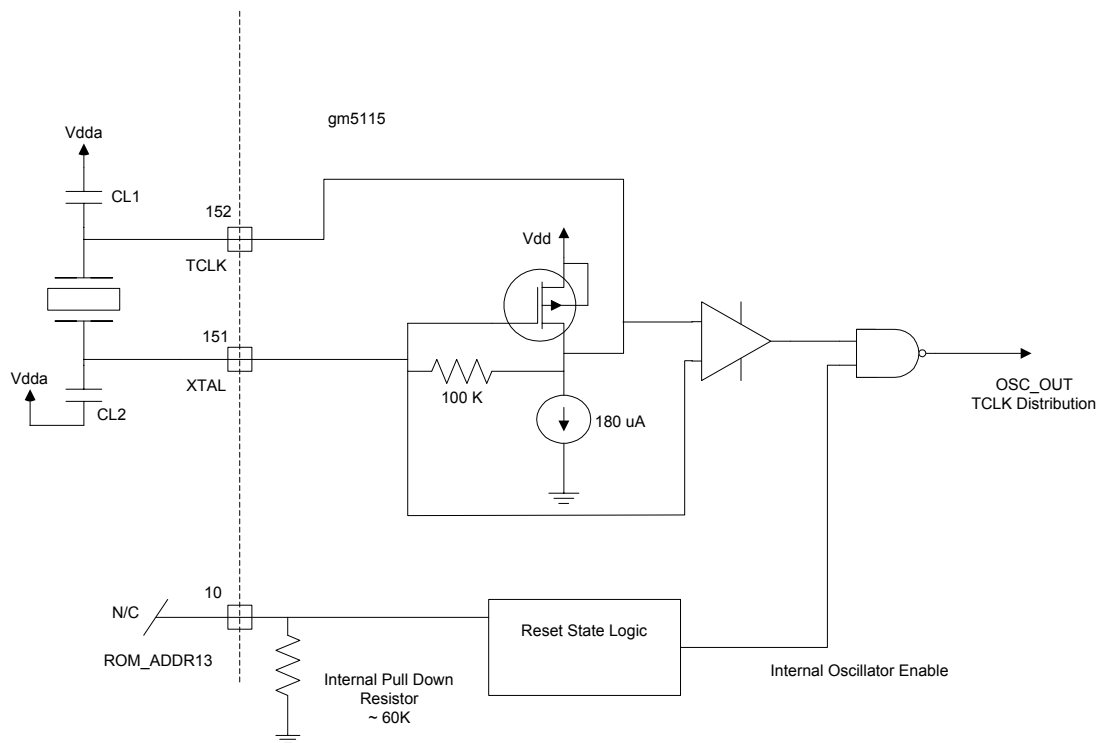

Figure 4. Using the Internal Oscillator with External Crystal
1. Crystal Input Clock (TCLK and XTAL). This is the input pair to an internal crystal oscillator and corresponding logic. A 14.3 MHz TV crystal is recommended. Other crystal frequencies may be used, but require custom programming. This is illustrated in Figure 4 below. Alternatively, a single-ended TTL/CMOS clock oscillator can be driven into the TCLK pin (leave XTAL as N/C in this case). This is illustrated in Figure 7 below. This option is selected by connecting a 10K Ω pull-up to ROM_ADDR13 (refer to Table 18). See also Table 14.